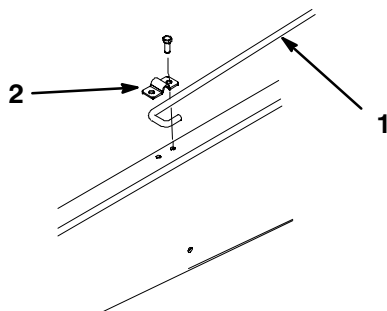

Figure 9
5. Have a helper raise the cargo box until the “J” hook end of the prop rod is positioned between the (2) holes on the left frame rail (Fig. 9).
6. Secure the prop rod to the frame rail with the prop rod clip and (2) 5/16 x 3/4" capscrews (Fig. 9).